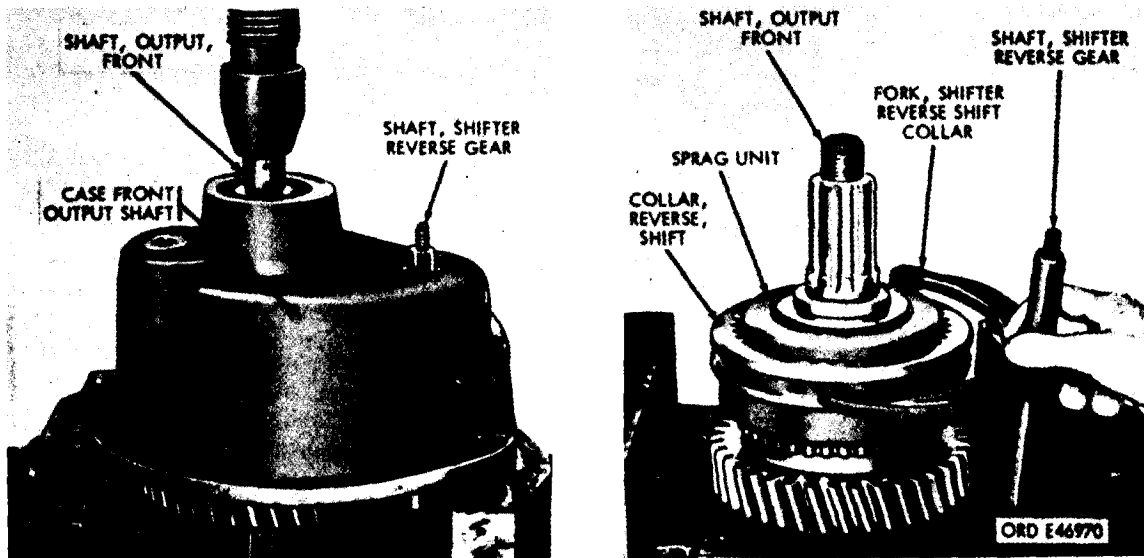

Figure 211. Disassembly of front output shaft case assembly
- (2) Place front output shaft case assembly on arbor press and push front output shaft (fig. 211), races, and gears free of bearing in front output shaft case. During this operation, the reverse gear